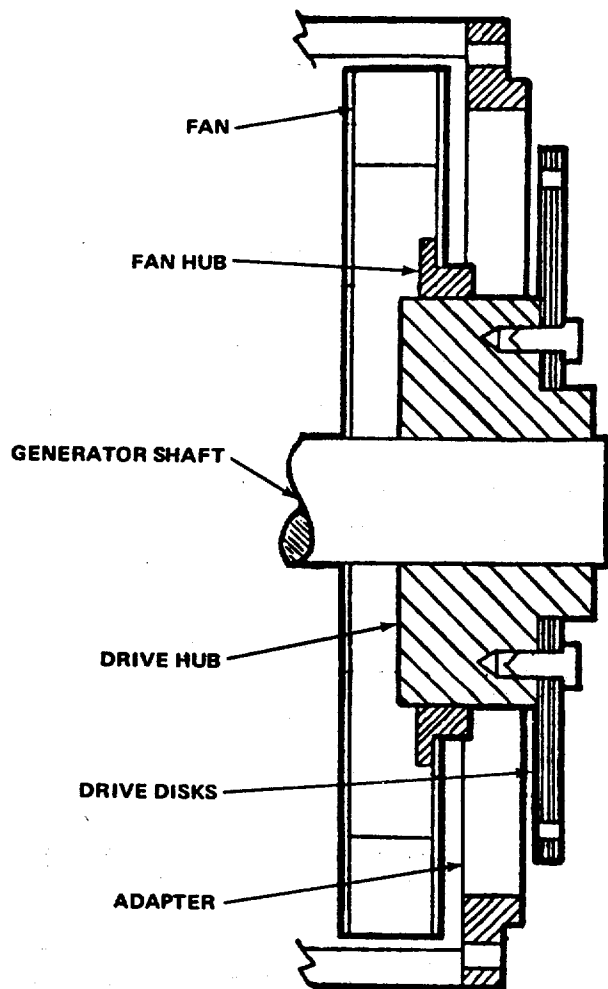

Figure 11-17. Drive Plate Assembly
- a. General. The generator shaft is directly driven by the engine shaft through the drive plate assembly, figure 11-17. The coupling compensates for misalignment between the two shafts to eliminate injurious stress on the connection components.